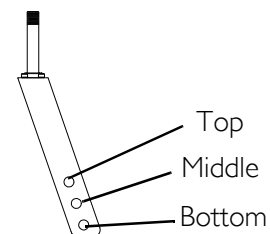
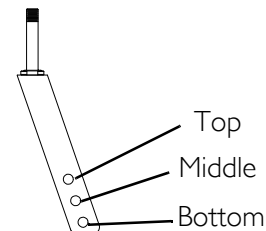

FIGURE 10.1 Changing Seat-to-Floor Height - Non-Recliner Frame Style
FIGURE 10.2 Changing Seat-to-Floor Height - Recliner Frame Style
NOTE: For this procedure, refer to FIGURE 10.1 on page 46 and FIGURE 10.2 on page 47.
- A. Adult/Hemi Frame Style - FIGURE 10.1.
- B. Recliner Frame Style - FIGURE 10.2.